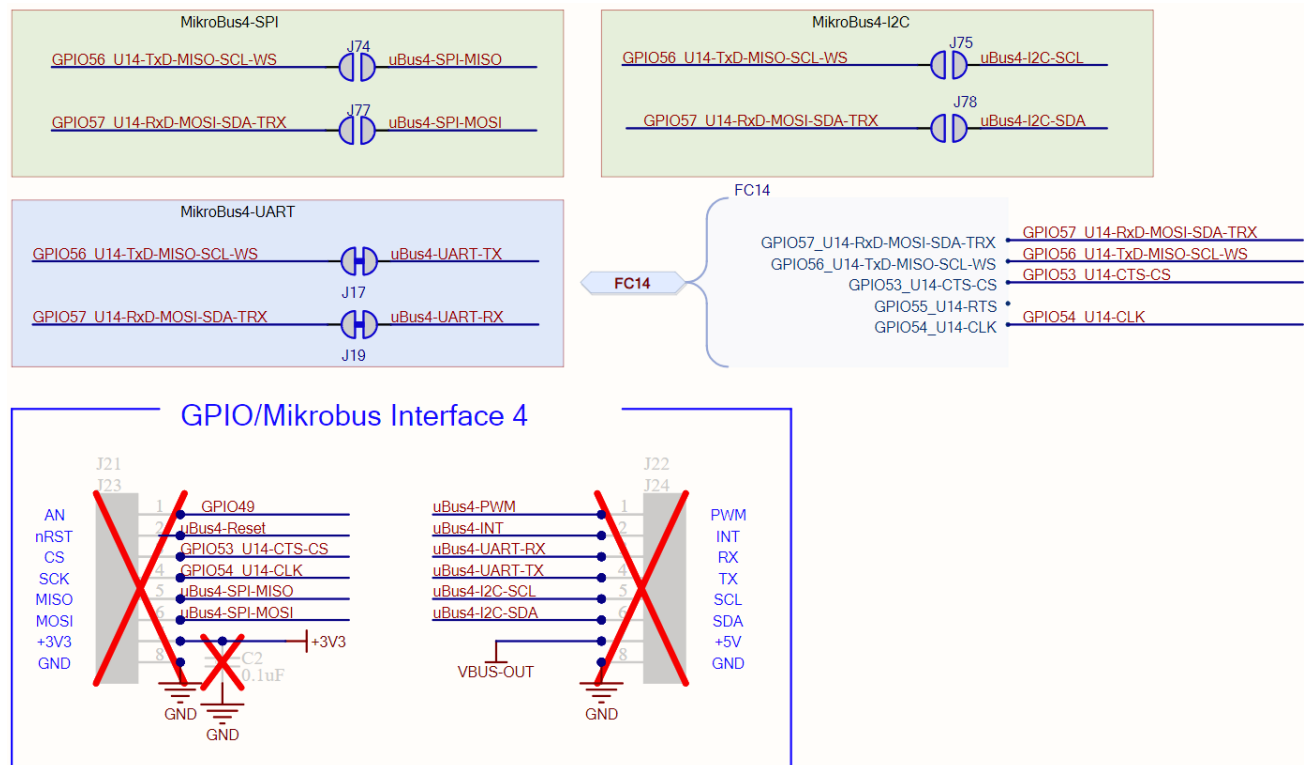

Figure 27: mikroBUS 4 slot signals and jumper configuration
- To enable I2C or SPI, adjust the state of jumpers **J74** and **J77** for SPI, or **J75** and **J78** for I2C, as shown in Figure 27. Also, toggle jumpers **J17** and **J19** to disable UART.
Figure 27 shows the connection of mikroBUS 4 to the Flexcomm 14.